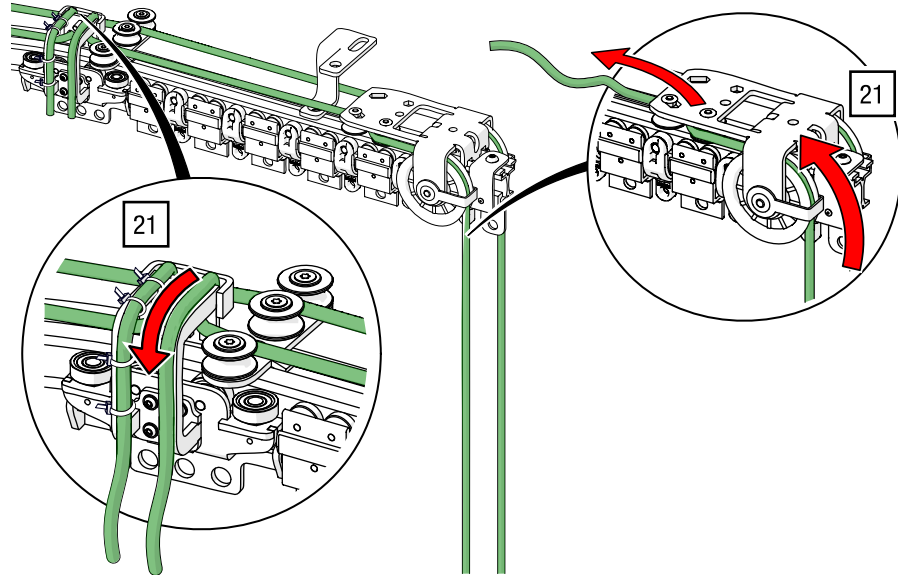

Fig. 101: Top cord operation – Guide cord ends into master runner via head pulley
21. Pass the second end of the cord upwards through the head pulley to the first master runner and tie it to the master runner at several positions with tie wraps (see Fig. 101).